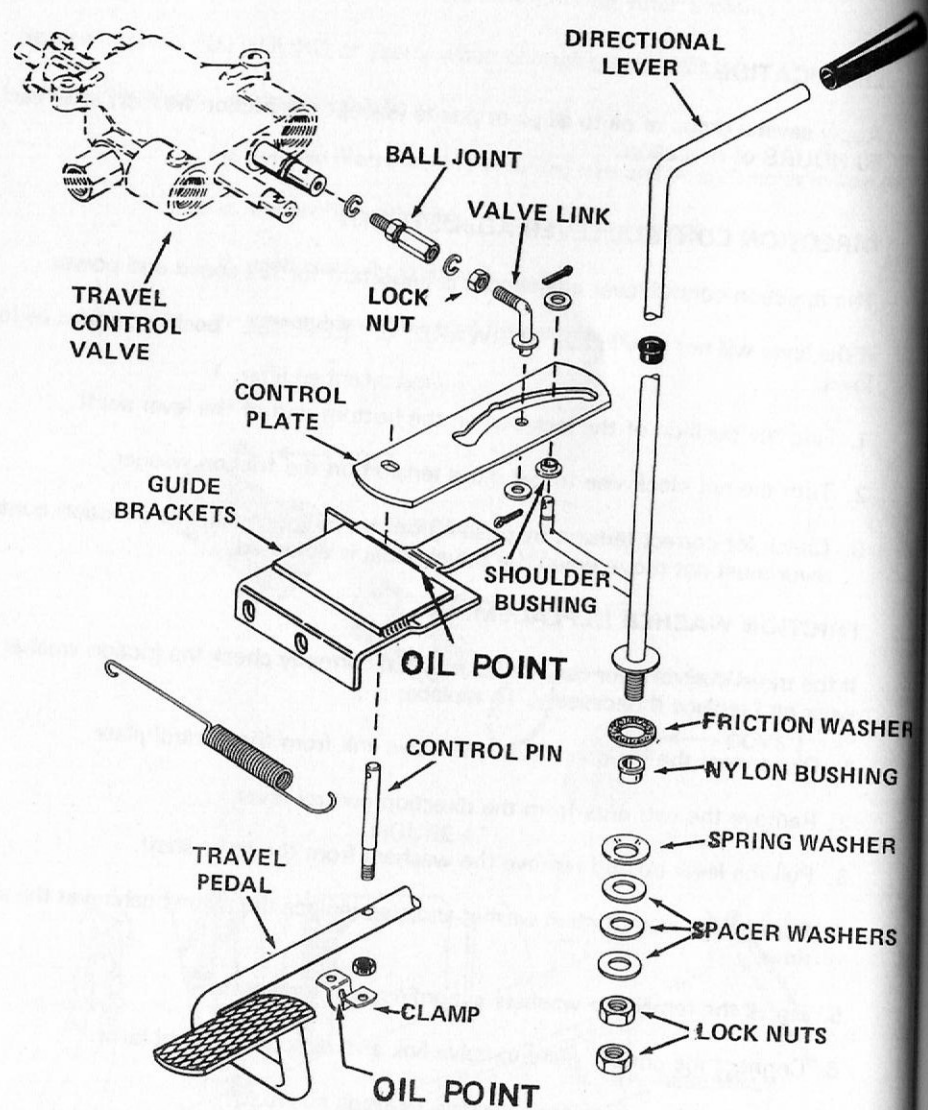

FIGURE 49
3. Install the new bushing as shown in Figure 49. The smaller diameter of the bushing must fit into the slot in the control plate.